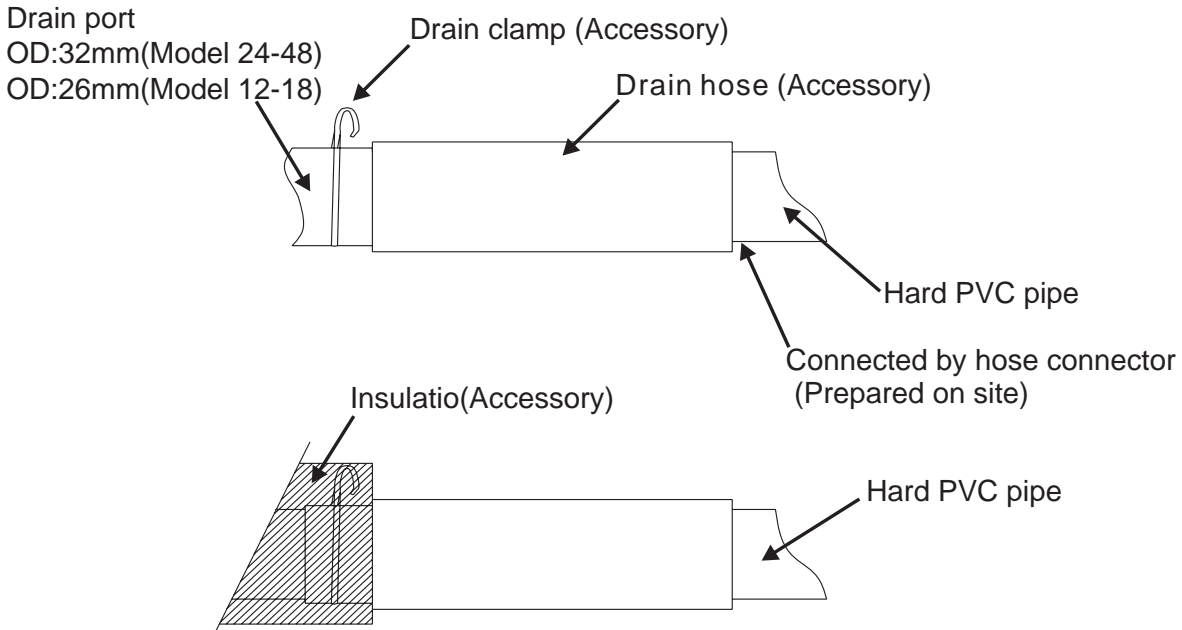

Fig.10
3. Insert the drain hose until it connects the drain port very well, and then secure it tightly with the hose clamp (Prepared on site) (Fig.10)
4. After checking the drainage, wrap the drain hose with the insulation and clamp. (Prepared on site) (Fig.10)